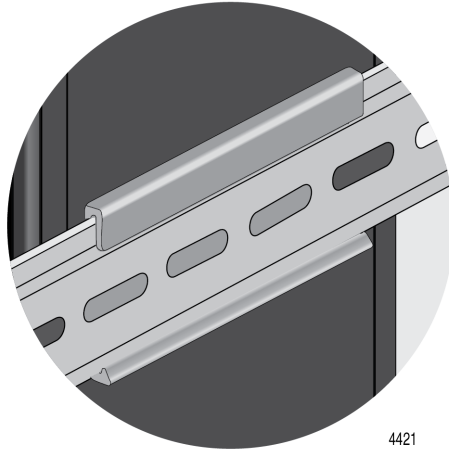

Figure 16. Install Switch on DIN Rail
2. Press down (against the spring within the bracket) on the top back edge of the switch until you the bottom edge of the front faceplate of the switch can be pushed back and under the bottom edge of the DIN rail. Release the pressure on the top of the switch until the DIN rail bracket spring securely fastens bracket to the top and bottom of the DIN rail. Refer to Figure 16.